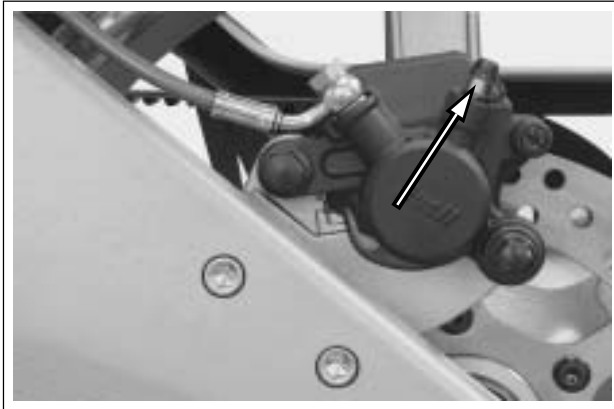

Figure 2-48. Brake Bleeder Valve, Rear Caliper
1. See Figure 2-48. Drain brake fluid into a suitable container. Discard used fluid according to local laws.